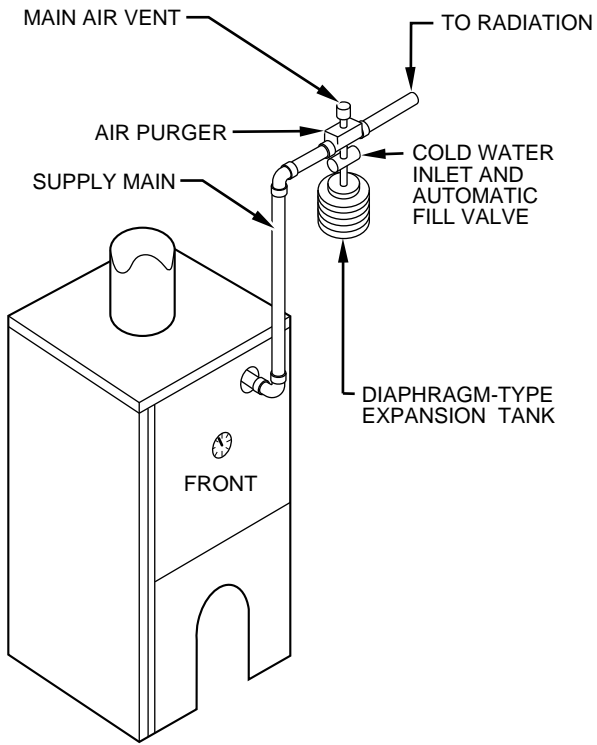

Fig. 8—Forced Hot Water Typical Piping
3. Connect supply and return lines to boiler. Both supply and return lines should be piped to the front section or both to the rear section. The boiler should NOT be piped return line to the front, supply line to the rear, or vice versa, as this will cause boiler water to short circuit heat exchanger. The connections may require certain additional fittings and parts as shown on diagrams. (See Fig. 8, 9, and 10.)